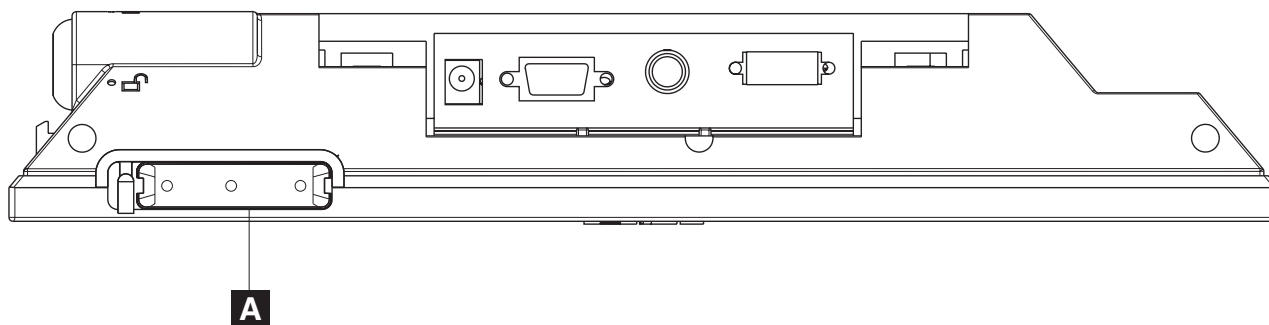

Figure 49. Optional button cover
2. Align the button cover with the buttons located on the bottom of the 4820 ( **A** in Figure 49).